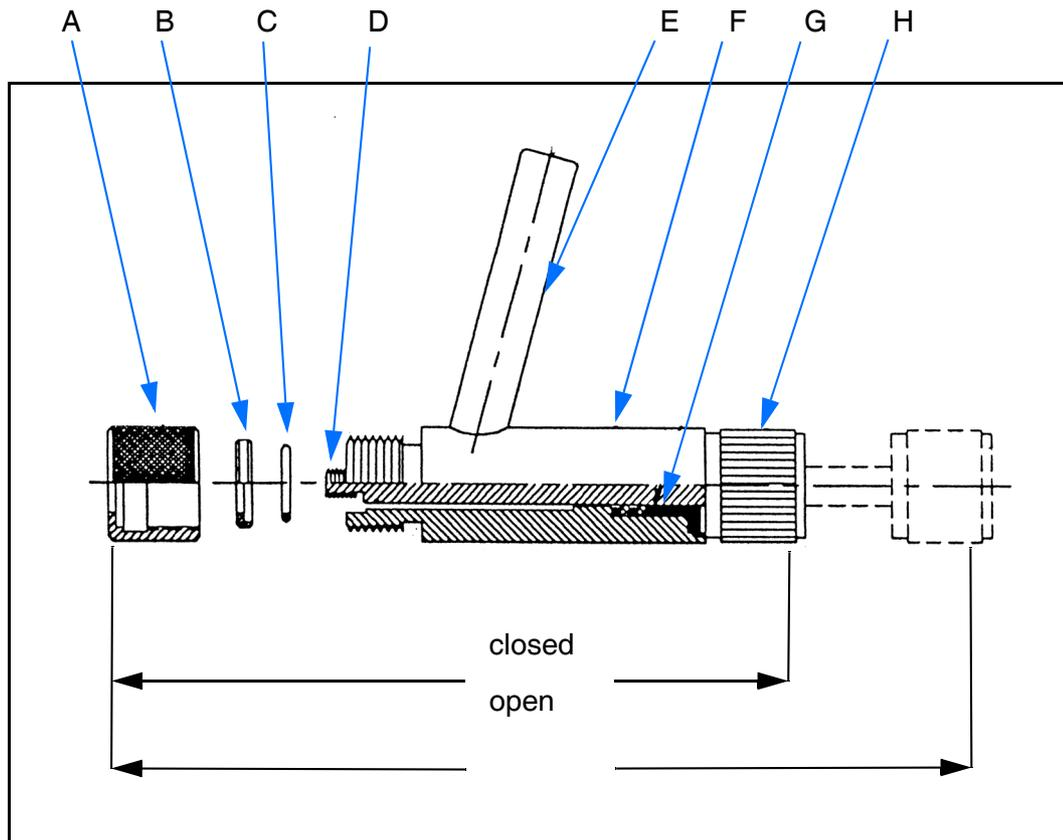

Figure 45: Vacuum adapter, cross section
- 1 Connect the connecting piece of the vacuum adapter (E in figure 45) to the vacuum pump. The connecting piece has an outer diameter of 9.7mm.
- 2 Pull the knob (H in figure 45) to the open position and loosen the coupling nut (A in figure 45).
- 3 Carefully slip the vacuum adapter (F in figure 45) over the connecting piece of the detector dewar and fasten the coupling nut finger-tight. The O-ring (C in figure 45) must engage properly into the corresponding groove at the detector port. Additional tightening is not necessary.
- 4 Push the knob (H in figure 45) into the closed position until the union nut (D in figure 45) of the vacuum adapter is in contact with the dewar evacuation valve.